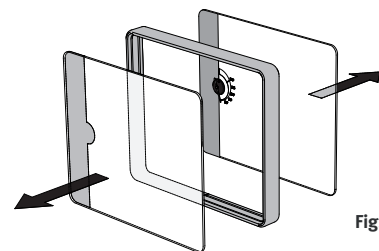

Fig. 73
- Remove the viewing window glazing unit and the silicone gasket (Fig. 73).